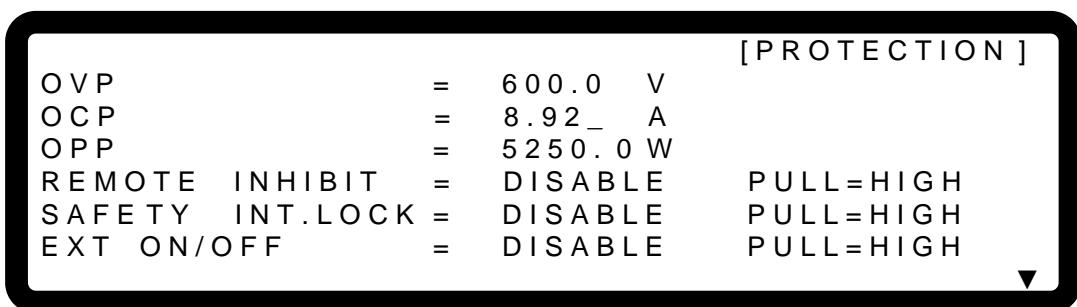

Figure 3-71
1. Use the “  ” keys to move the cursor to the column to be set as shown in Figure 3-71.